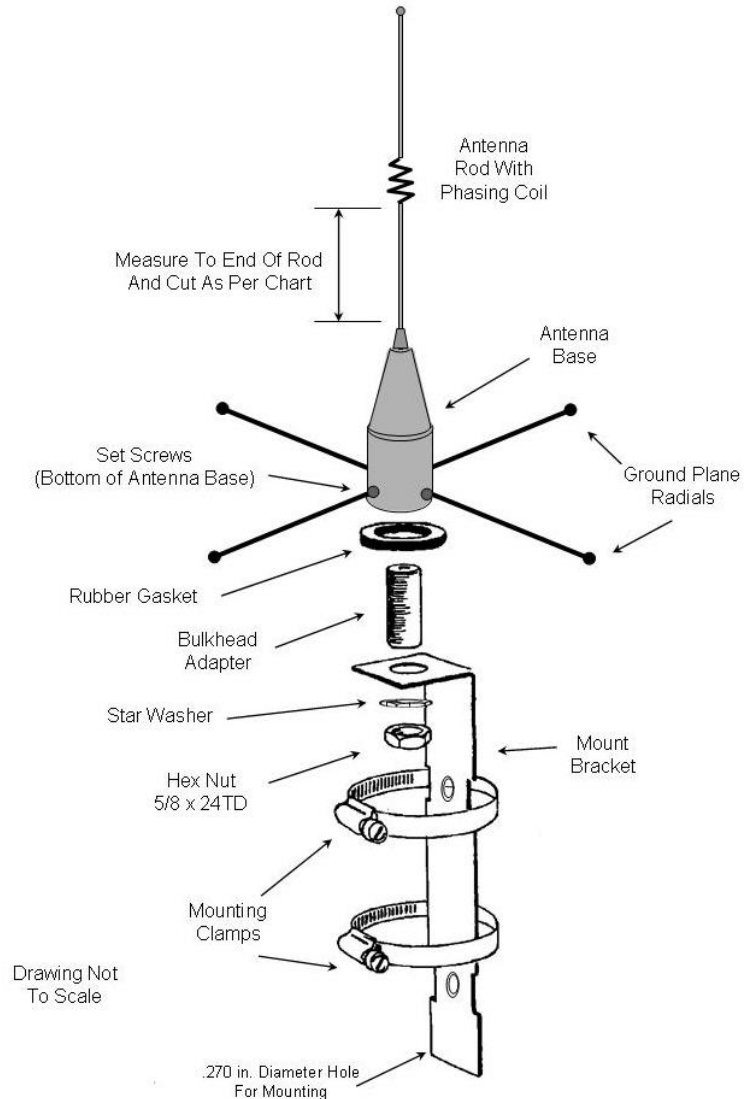

Figure 1: Exploded View
5. Remove hex nut, star washer and rubber gasket from threaded bulkhead adapter on bottom of antenna (See Figure 1).